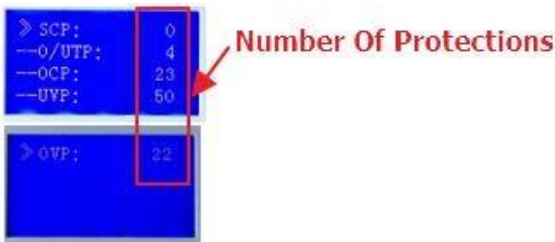

Figure 7
4.2.1 Status includes “SCP”、”O/UTP”、”OCP”、”UVP”.Figure 7